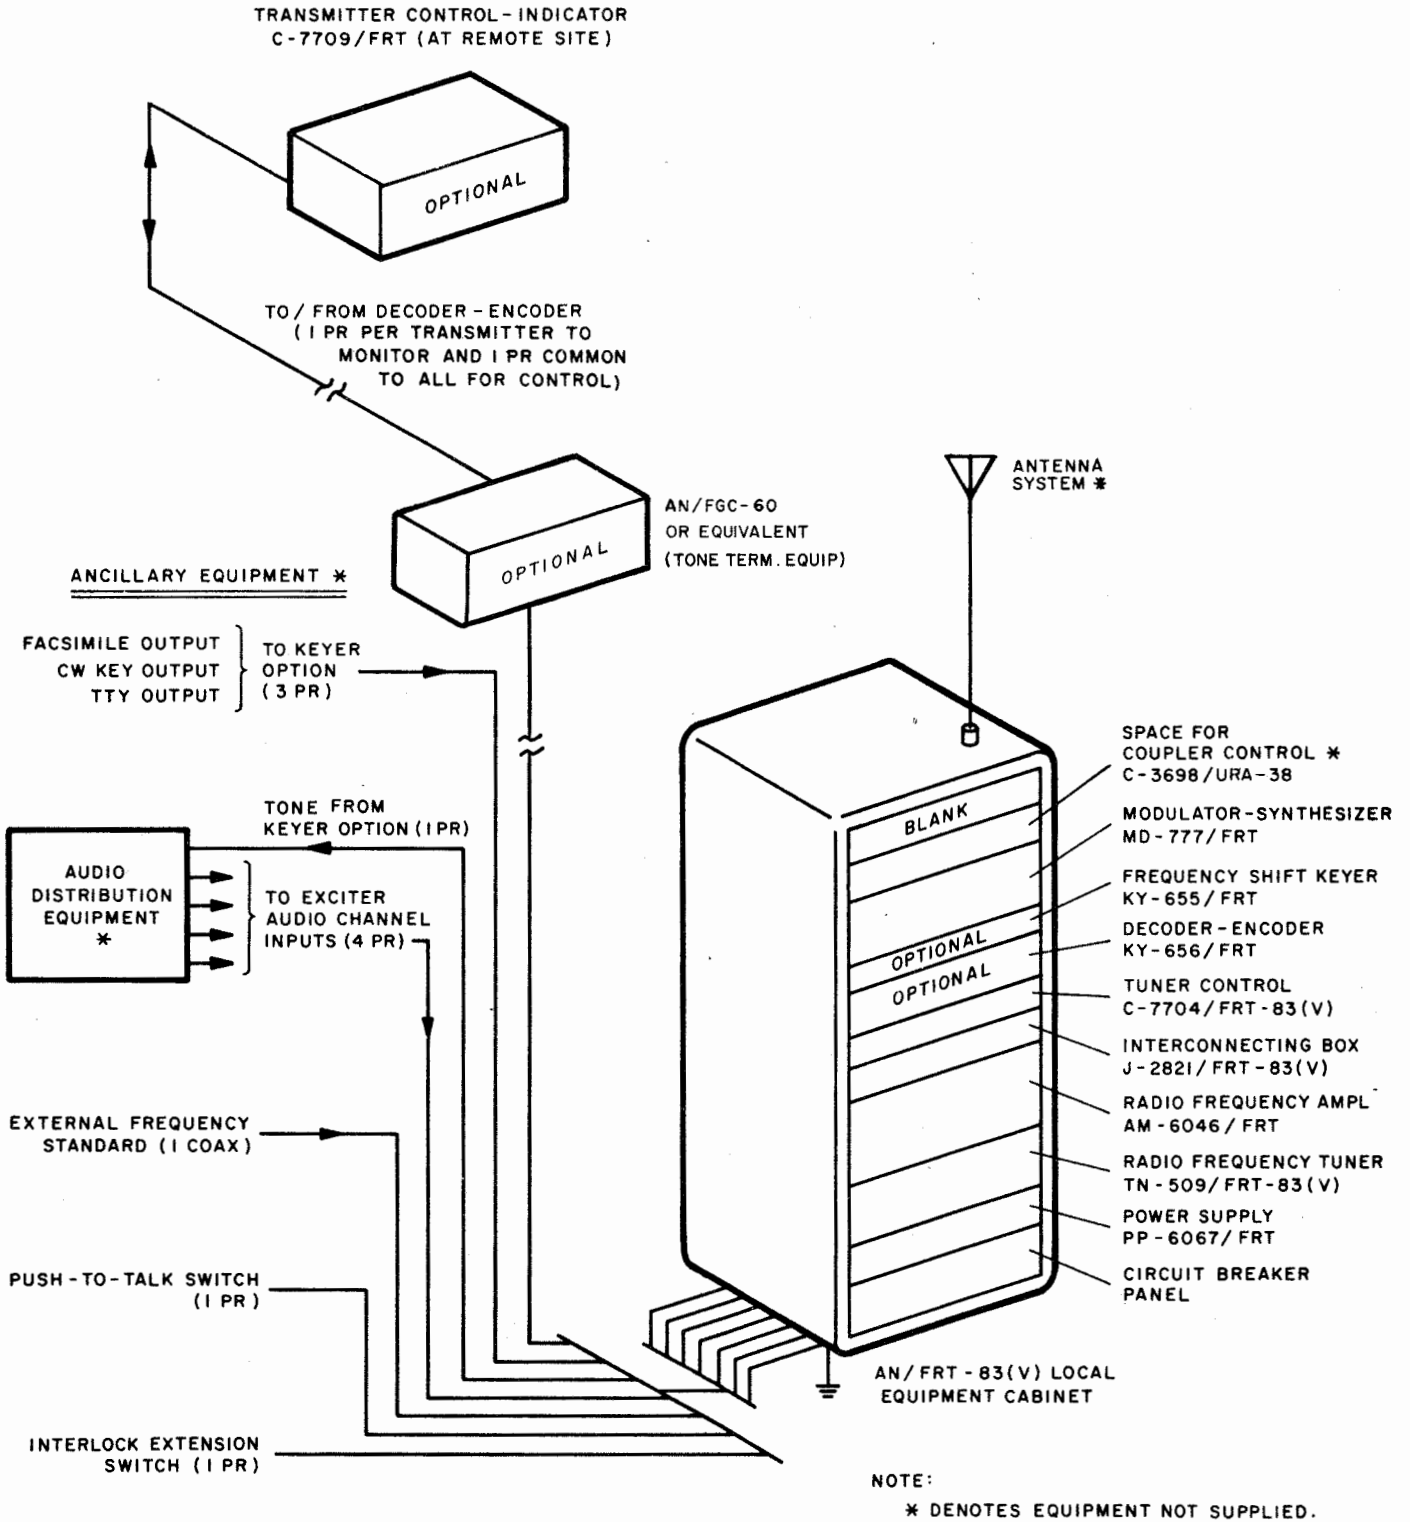

Figure 1-1. Radio Transmitting Set AN/FRT-83(V), Relationship of Units
AN/FRT-83(V) comprises. For the sake of brevity, full nomenclature will not be used. Units are identified in figure 1-1, which shows a representative AN/FRT-83(V) with all optional units.